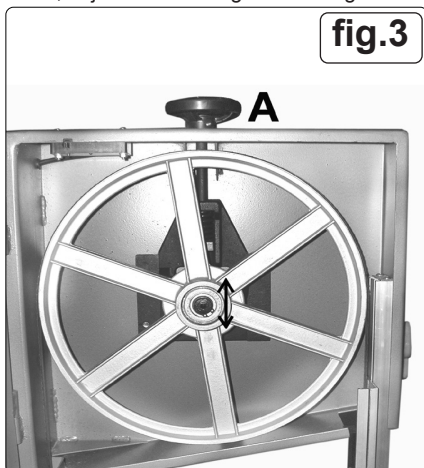

fig.3
6.3.1. Open blade covers and carefully rotate the upper blade wheel (fig.3) clockwise by hand, to determine whether blade is tracking correctly - blade should be on the centre of each wheel rim.
6.4.1. The upper blade guide should always be adjusted to about 3mm above the workpiece. To adjust: turn the adjustment knob (fig.3.C) to lower guide to required position.